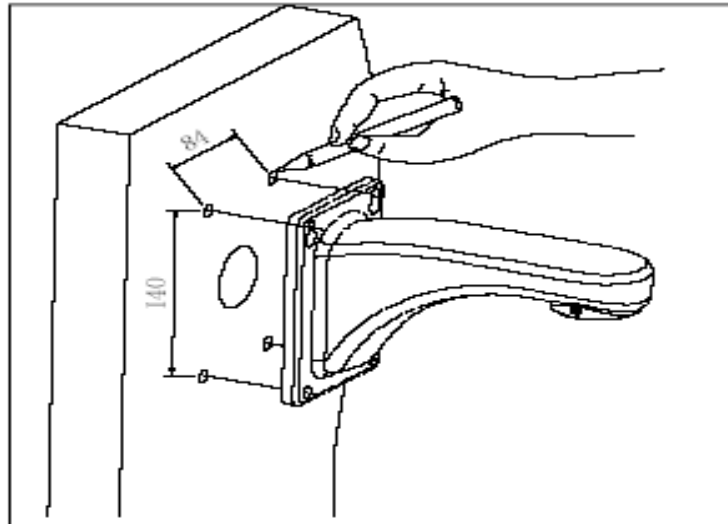

Fig 2.3
a. As shown in fig 2.3, with the installation holes in the underside of the wall hanging bracket as pattern, draw punched locations and punch.